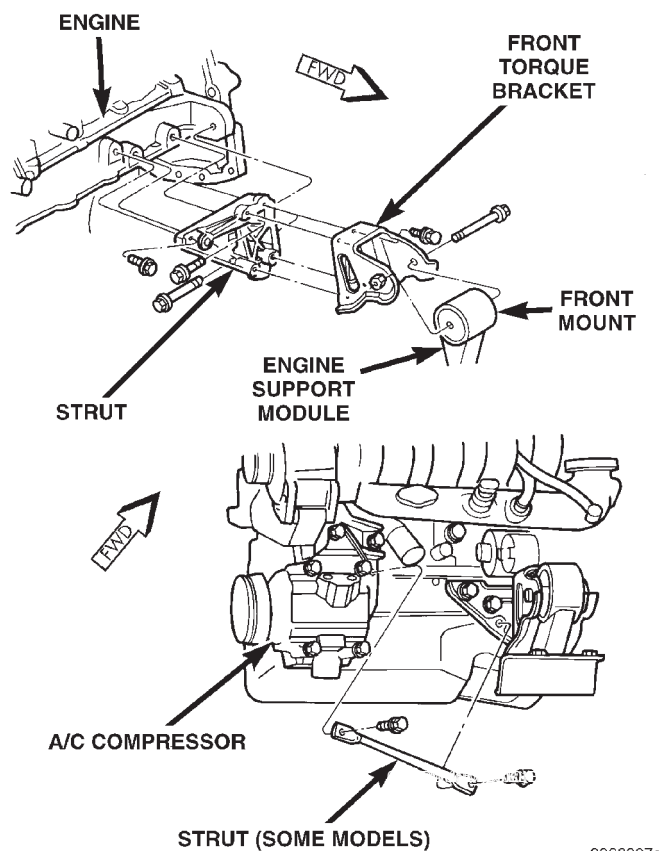

Fig. 20 Engine Mounting—Front 2.0 and 2.4L
- (6) Tighten thru bolt at front mount see (Fig. 20) tighten to 61 N·m (45 ft. lbs.).